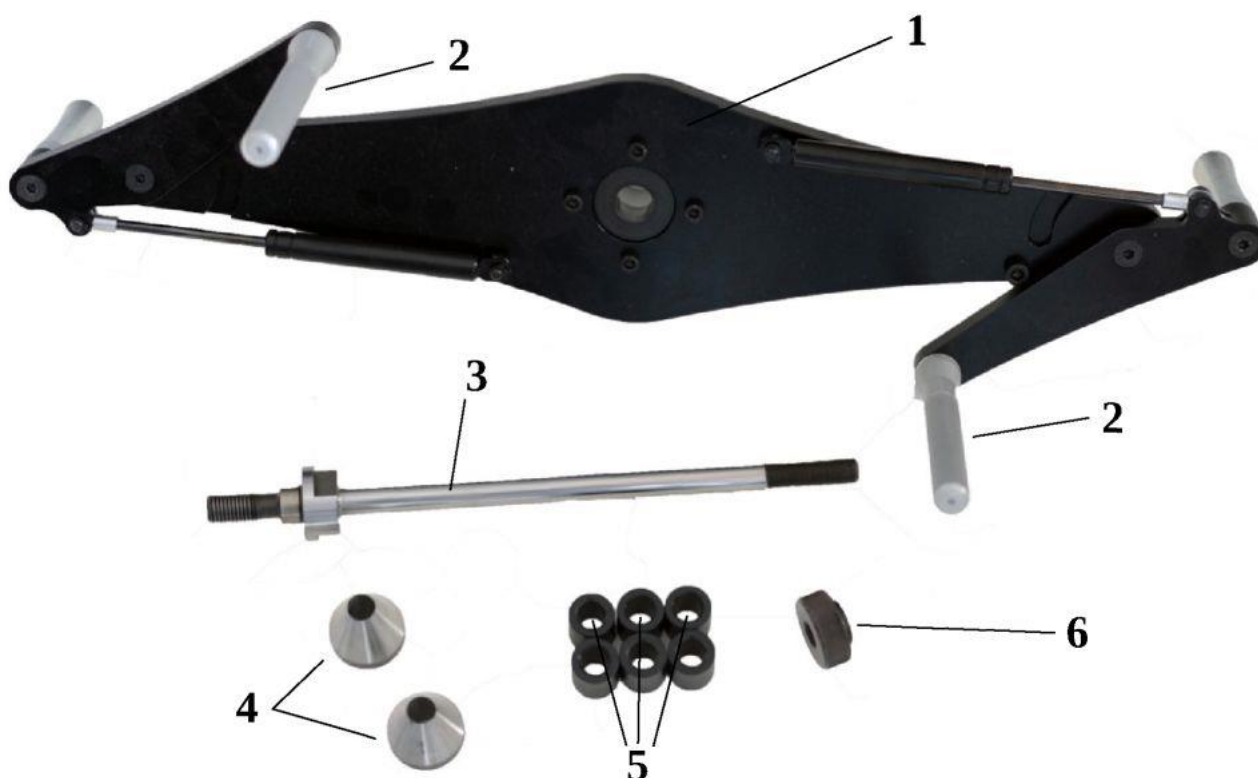

Fig. 7: Motorcycle holder elements:
Motorcycle wheels holder has been mounted the similar way as the car holder (described in section WHEEL HOLDER MOUNTING) . Figure 7 shows the motorcycle holder and describes all its components.
If there is a car wheel holder mounted on the balancer (figure 3) dismantle it and install the motorcycle holder (figure 7) as described in section THE MOTORCYCLE WHEEL HOLDER MOUNTING.
- Make sure that the tyre clamps 2 shown in figure 7 are in the open position and that one of the cones 4 in figure 7 is placed on holder axle (figure 14a).
- To fast the wheel well place the offset sleeves 5 in figure 7 behind the cone so that there is a place for the holder nut 6 in figure 7 (figure 14c).